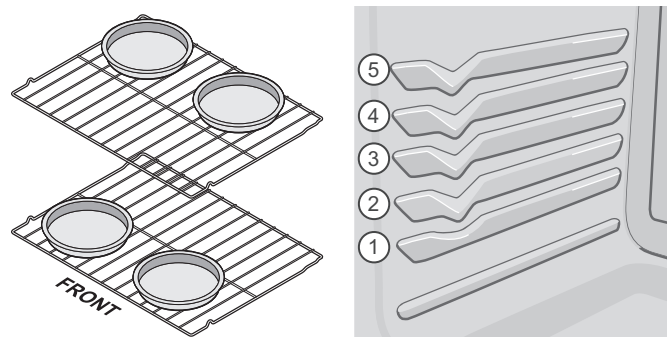

Figure 9: Pan spacing (L) and rack (R) positions
- When baking cakes or cookies using two oven racks, place cookware as shown in Figure 9 and place racks in rack positions 2 and 5.
1. Arrange the oven racks when cool. For optimum browning results, preheat oven for two minutes before adding food. If using multiple racks, arrange food on the racks as seen in Figure 9.